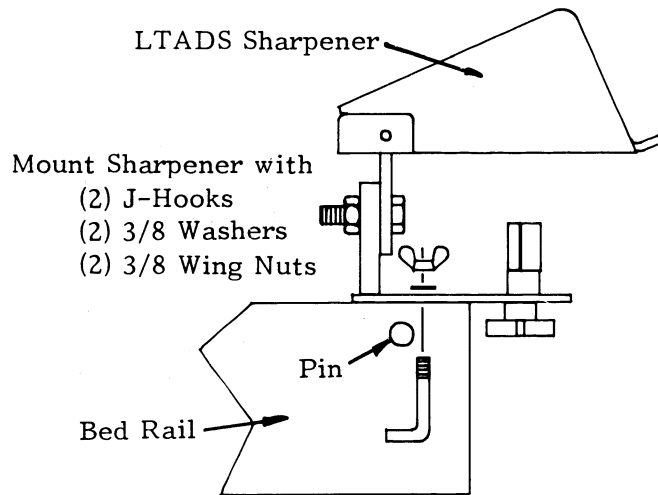

FIGURE 2A
- For use in the field with the LT30 or LT40 Wood-Mizer mill, move the carriage forward to allow a 32" clearance for the blade. The grinder can be mounted at the end of the bed rail as shown in **Figure 2A**. The two "J" hooks provided can be used to lock the grinder to the bed rail by simply hooking them under the ramp mounting pin and securing with two flat washers and wing nuts.